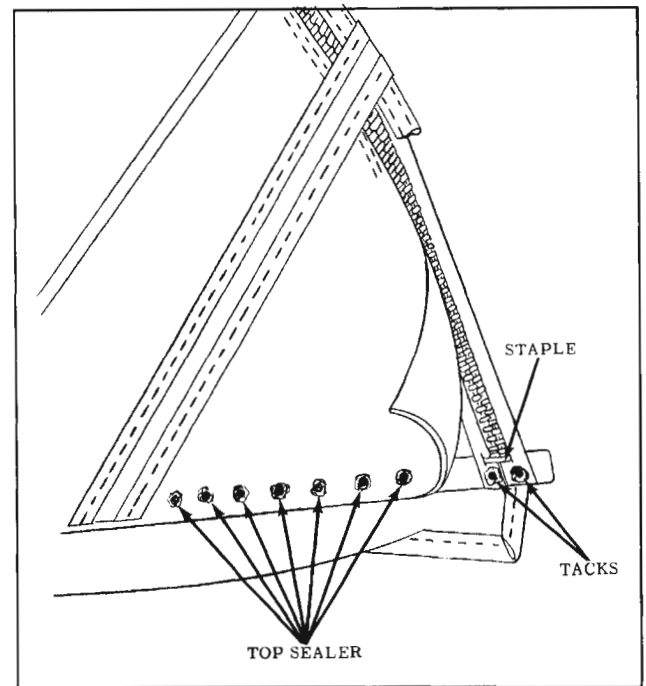

Fig. 16-139 Sealing Rear Quarter Trim Stick
12. Staple both sections of zipper tape together. Staples will aid in preventing zipper scoops from disengaging and also serve as a stop for the slide fastener. (Fig. 16-139).
14. Tack zipper tape to rear quarter trim stick. (Fig. 16-139) Zipper tape should not be pulled taut as zipper teeth may show through top material after top has been properly installed.
18. Apply convertible top sealer (nitrile) around each tack head used to secure back curtain material and webbing to rear and rear quarter trim sticks. (Fig. 16-139)